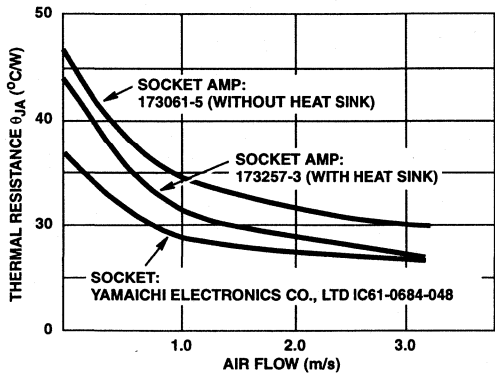

FIGURE 2. THERMAL RESISTANCE OF THE CONVERTER MOUNTED ON A BOARD
- T_A is specified in still air and without heat sink. To extend temperature range, appropriate heat management techniques must be employed (See Figure 2).